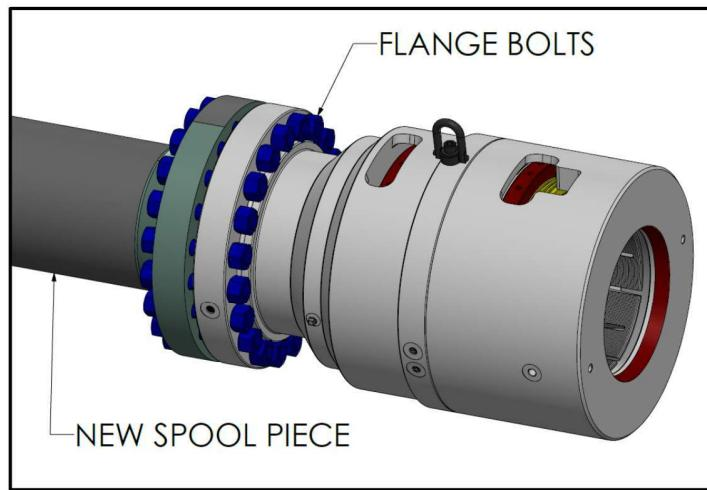

Figure 6
- a. Installing a riser connection, a blind flange, or a valve. Bolt the flanged end of the new piece of equipment to the Seal Flange Section of the Hydraulic Power+Grip Connector as shown in Figure 6. Torque the flange bolts uniformly to the appropriate torque using the bolting pattern defined in ASME PCC-1.